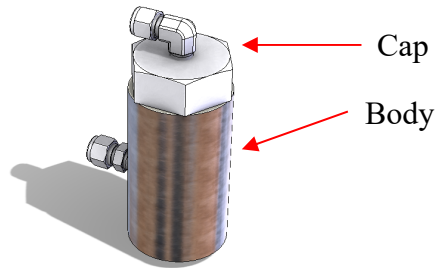

Figure 39: Auxiliary Filter
- d) Rigidly affix the body and unscrew the cap. See Figure 39.